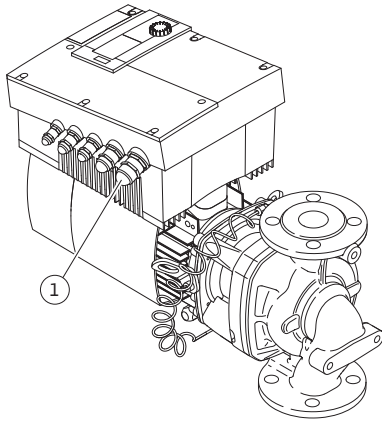

Fig. 25: NPT^{3/4} " threaded cable connection
- The electrical connection must be established via a fixed power cable which has a plug attachment or an all-pole switch with a contact opening width of at least $\frac{1}{8}$ " (3 mm). Use 167 °F (75 °C) copper conductors only. The power cable is to be fed through the NPT^{3/4} " threaded cable connection (Fig. 25, Item 1). Cross-section of power cable to be maintained: